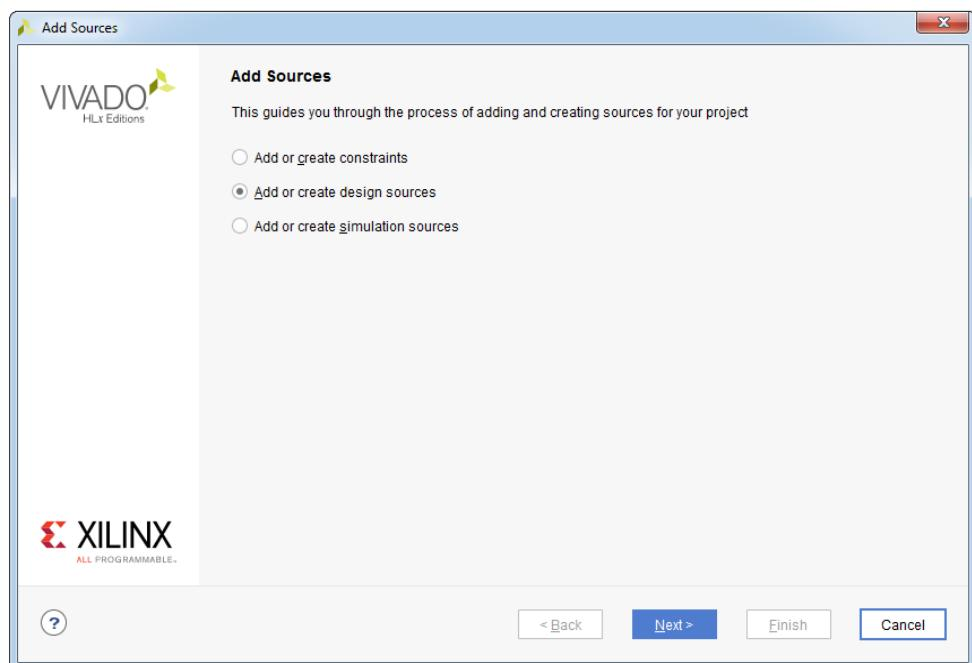

Figure 2.23: Add Sources dialog box - Add or create design sources option
9. In the **Add Sources** dialog box, select **Add or create design sources** option to add the design source files into the project, see Figure 2.23.